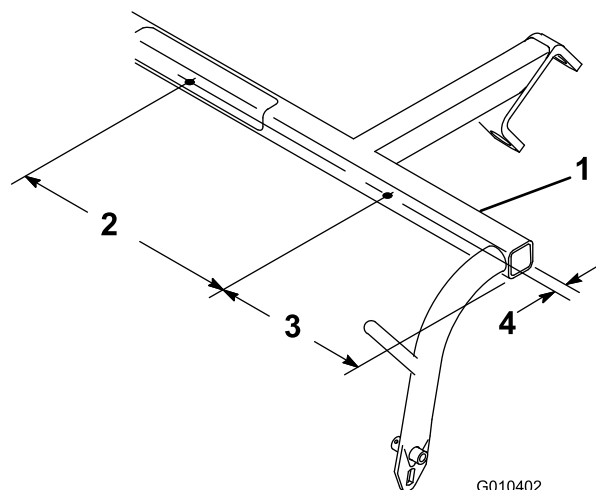

Figure 1
1. Using the dimensions shown in Figure 1, locate, mark, and drill 2 holes (0.221 in. diameter) in the underside of each pull frame cross tube.